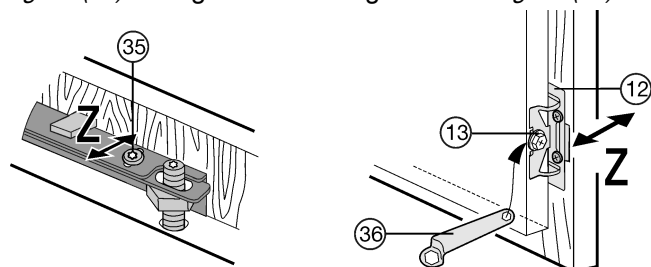

Fig. 34
- ▶ To align the unit door in depth Z: Undo top screws *Fig. 34 (35)*, bottom hex head screws *Fig. 34 (13)*, then move the door.